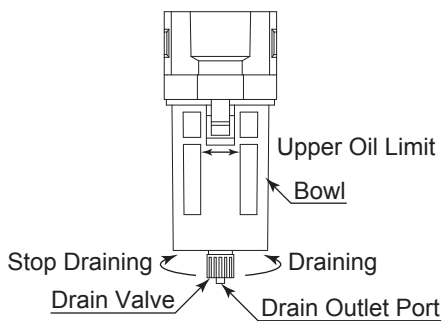

Fig. 20
- ① Draining from Air Filter (Fig. 20)